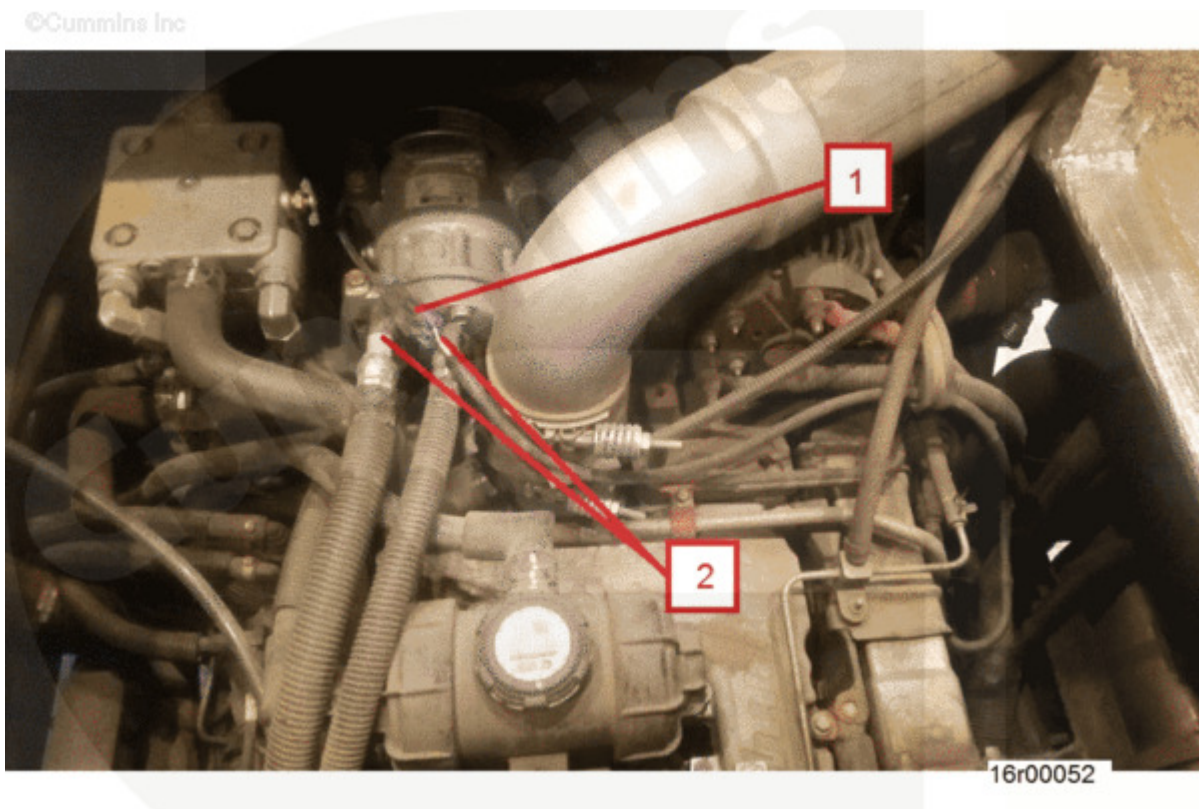

Figure 2, Top of engine.
3. Disconnect refrigerant pressure and return hoses (Figure 2). See equipment manufacturer service information. Secure hoses out of the way.